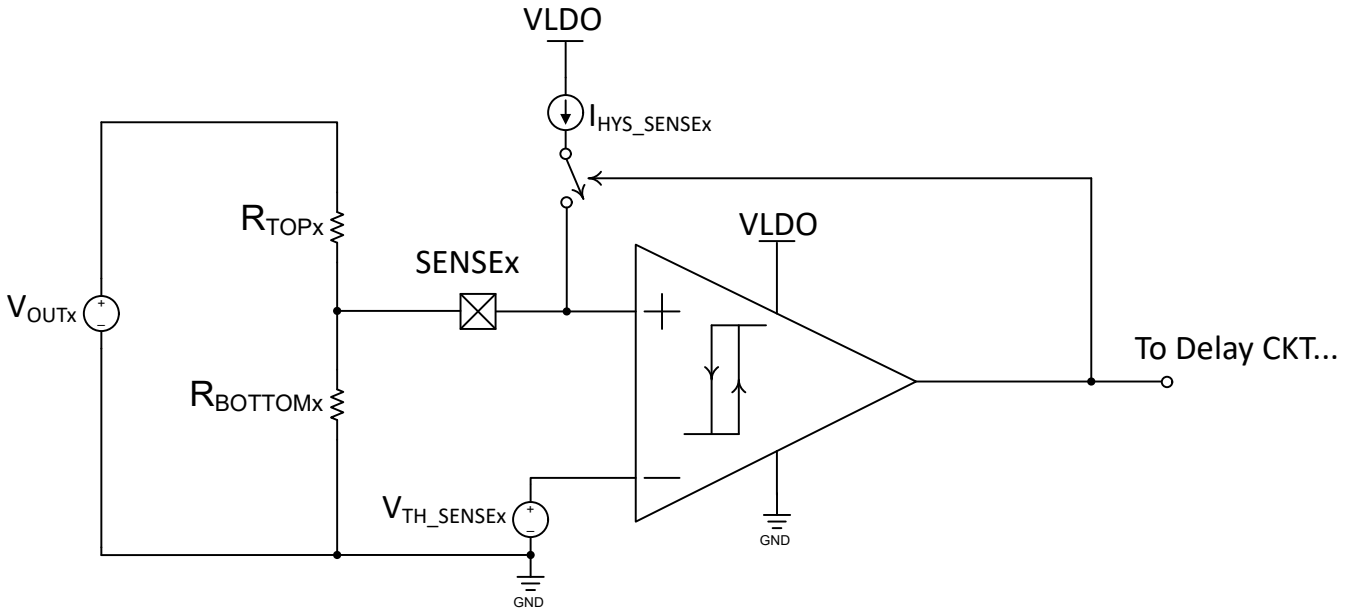

Figure 8-2. SENSEx Comparators Inputs
The TPS7H3014 sequencer integrates four under-voltage (UV) comparators, with an accurate ($\pm 1\%$) threshold voltage (V_{TH_SENSEX}) of 599mV nominal. V_{TH_SENSEX} is measured at the ENx outputs to account for comparator offsets in the threshold. Maximum flexibility is provided as external resistive dividers can be adjusted to sense any voltage rail (V_{OUTx}). Figure 8-2 shows a conceptual diagram of the comparators connected to the SENSEx inputs. As can be observed, the sensed voltage rail (V_{OUTx}) is attenuated (using an external resistive divider, R_{TOPx} and $R_{BOTTOMx}$) and compared against the V_{TH_SENSEX} voltage. Is recommended to maintain the steady-state SENSEx voltage below 1.6V, in order to maintain the threshold (V_{TH_SENSEX}) accuracy.
This current is mirrored internally across all SENSEx inputs. This hysteresis current becomes active when the SENSEx voltage is greater than the threshold voltage (599mV $\pm 1\%$), same as $V_{OUTx} > V_{ONx}$ (Refer to Equation 3 and Figure 8-2). This current (I_{HYS}) multiplied by the R_{TOPx} resistance induces a voltage (V_{HYSx}) that is added to the SENSEx node, effectively boosting (incrementing) the node voltage. During sequence down, or an undervoltage event when the V_{OUTx} is decrementing, it will need to drop below the V_{OFF} voltage in order to be considered as an out of regulation (or fault). The hysteresis voltage is defined as: